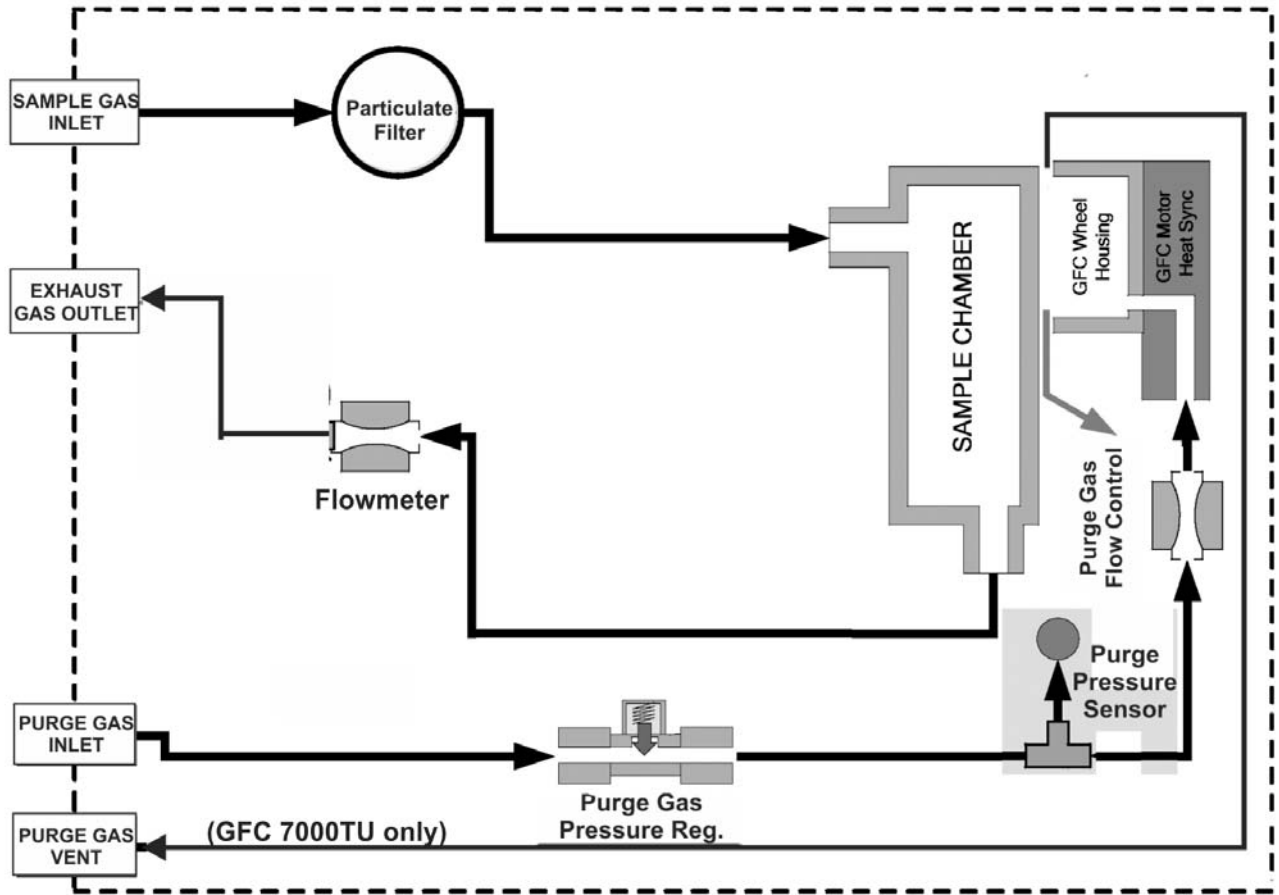

Figure 3-7: Internal Gas Flow–Basic Configuration
**If the source of the purge air is shared by a Teledyne Instruments T700 (as shown in figure 3-7) the minimum gas pressure should be 25 psig and should not exceed 35 psig.**